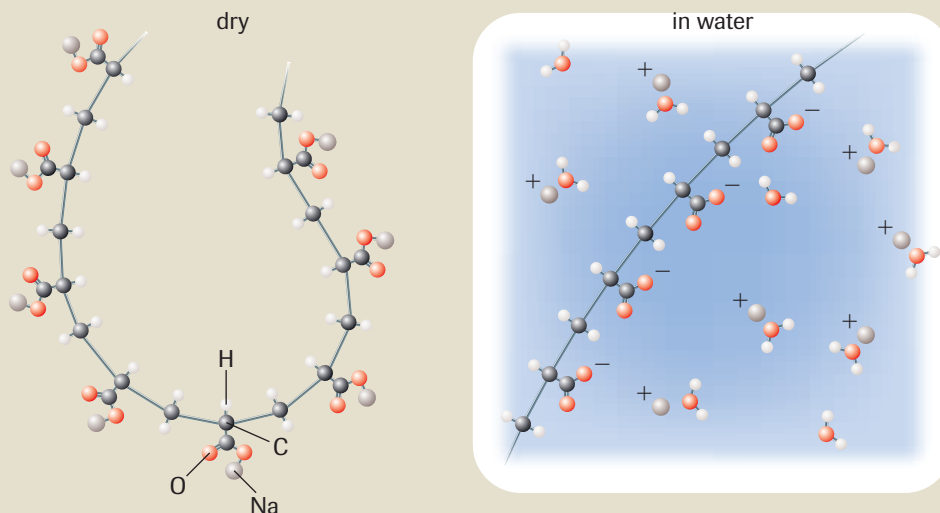

Figure 10
- Polymethylacrylate:** This crystalline polymer of sodium methylacrylate absorbs water through osmosis and hydrogen bonding. The presence of sodium ions in the polymer chains draws water that is held between the chains. The presence of water results in attractions between the chains and causes the formation of a gel (**Figure 10**).